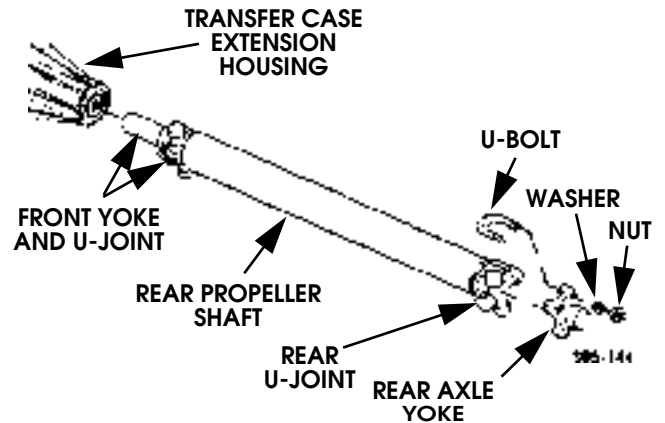

Figure 9-109: Rear Propeller Shaft Attachment
- Remove U-bolts, attaching rear shaft to rear axle yoke (Figure 9-109).